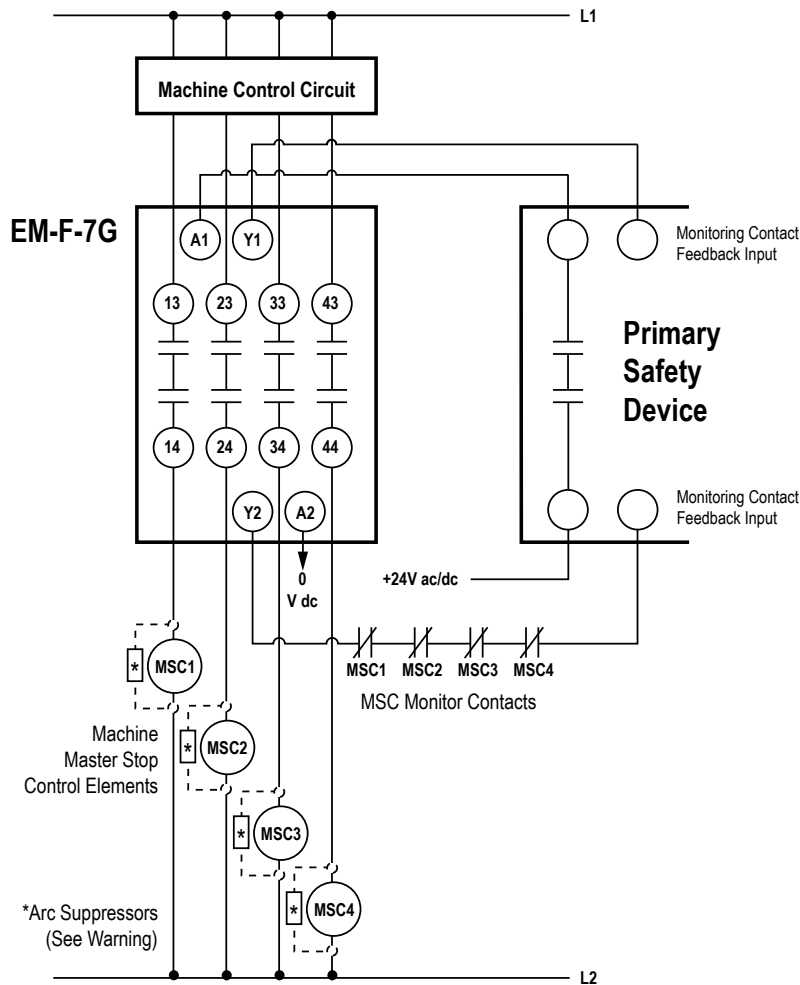

Figure 1. Generalized EM-F-7G Wiring
The wiring diagram (Figure 1 on page 4) shows a generic connection of the four safety output channels of the Safety Extension Module to Master Stop Control Elements MSC1 through MSC4. A Master Stop Control Element is defined as an electrically powered device, external to the Extension Module, which stops the machinery being controlled by immediately removing the electrical power to the machine and (when necessary) by applying braking to dangerous motion (reference ANSI B11.19, section 5.2: "Stop Control"). To achieve control reliability, two redundant MSCs are required to control each machine hazard.
To satisfy the requirements of control reliability, all MSCs must offer at least one normally closed forced-guided monitor contact. One normally closed monitor contact from each MSC is wired in series to the monitoring contact feedback input of the Primary Safety Device (as shown in Figure 1 on page 4). In operation, if one of the switching contacts of any MSC fails in the shorted condition, the associated monitor contact will remain open. As a result, it will not be possible to reset the Primary Safety Device.
**Important:** NOTICE regarding MSCs. To achieve control reliability, two redundant Master Stop Control Elements (MSCs) are required to control each machine hazard. Each MSC must be capable of immediately stopping the dangerous machine motion, irrespective of the state of the other. Some machines offer only one primary control element. For such machines, it is necessary to duplicate the circuit of the single MSC to add a second MSC. MSCs must offer at least one forced-guided auxiliary contact which is wired to the monitoring contact feedback input of the Primary Safety Device (see Figure 1 on page 4).